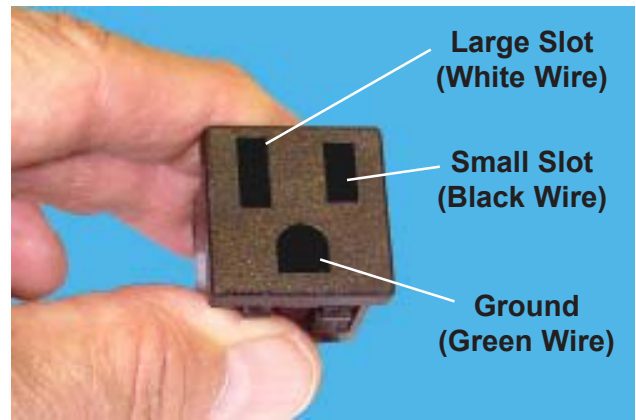

Figure 41. Auxiliary Outlet - Front
12. Push the auxiliary outlet into its opening in the outside cover until it snaps into place. **Note:** Orient the outlet with the ground on the bottom as shown in Figure 41.